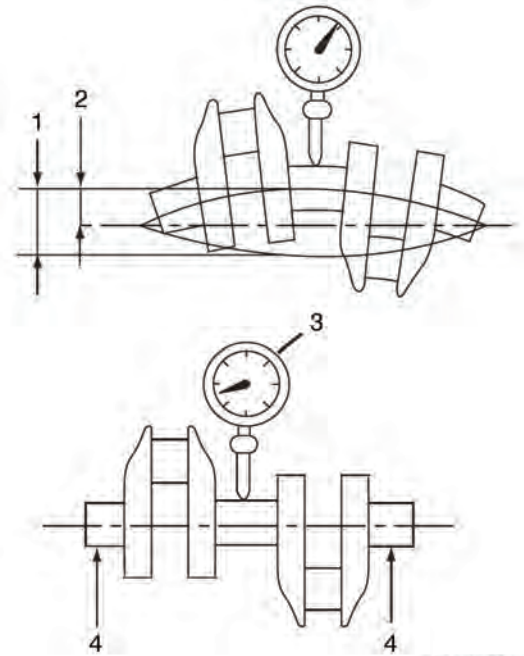

Figure 200
1. Place the crankshaft end journals (4, Figure 200) on V-blocks.
2. Place a dial indicator (3, Figure 200) on a center main bearing surface.